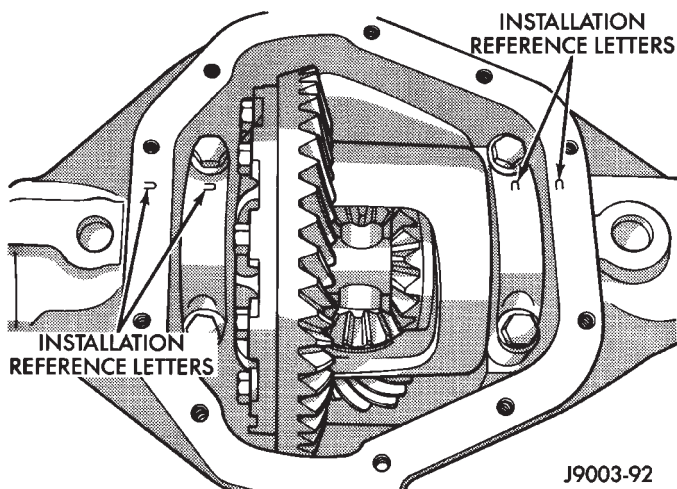

Fig. 33 Differential Bearing Cap Reference Letters
(6) Install the bearing caps at their original locations (Fig. 33).